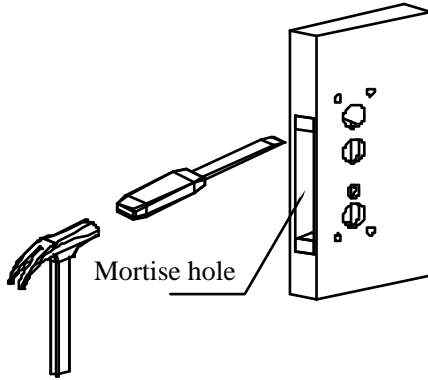

Figure 5
5) Use hammer and woodworking chisel dig the lock body's insert hole, deep about 93-95mm. show as Figure 5.